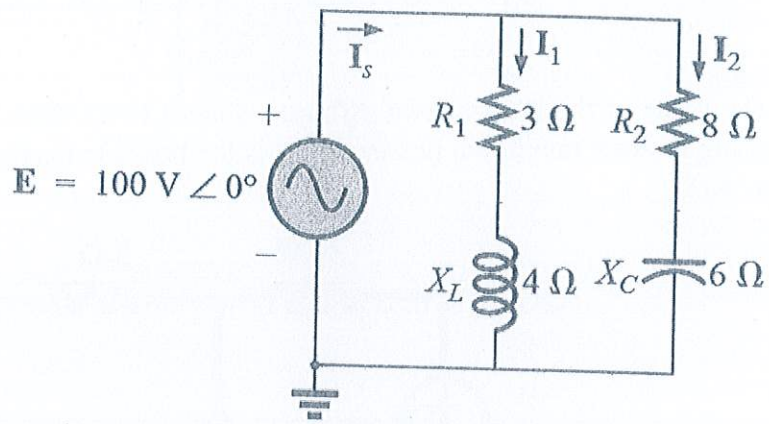

Figure 1
1. Calculate the power factor of each of the R-C and R-L branch of the circuit in Figure 1. [25]